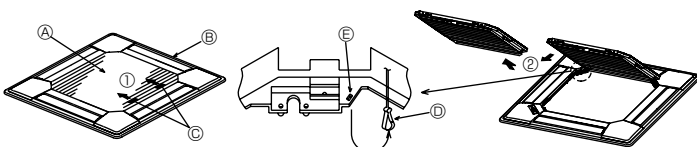
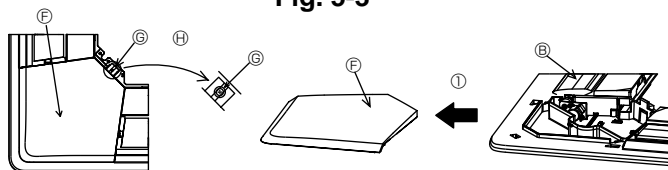

Fig. 5-3
Fig. 5-4
5.2.1. Removing the intake grille (Fig. 5-3)
- Slide the levers in the direction indicated by the arrow ① to open the intake grille.
- With the intake grille in the "open" position, remove the hinge of the intake grille from the grille as indicated by the arrow ②.
5.2.2. Removing the corner panel (Fig. 5-4)
- Remove the screw from the corner of the corner panel. Slide the corner panel as indicated by the arrow ① to remove the corner panel.
[Fig. 5-3, 5-4]